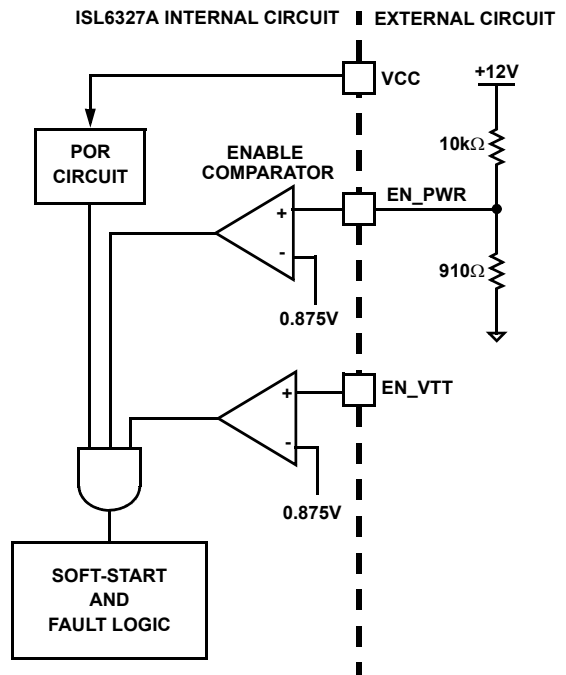

FIGURE 7. POWER SEQUENCING USING THRESHOLD-SENSITIVE ENABLE (EN) FUNCTION
2. The ISL6327A features an enable input (EN\_PWR) for power sequencing between the controller bias voltage and another voltage rail. The enable comparator holds the ISL6327A in shutdown until the voltage at EN\_PWR rises above 0.875V. The enable comparator has about 130mV of hysteresis to prevent bounce. It is important that the driver ICs reach their POR level before the ISL6327A becomes enabled. The schematic in Figure 7 demonstrates sequencing the ISL6327A with the ISL66xx family of Intersil MOSFET drivers, which require 12V bias.